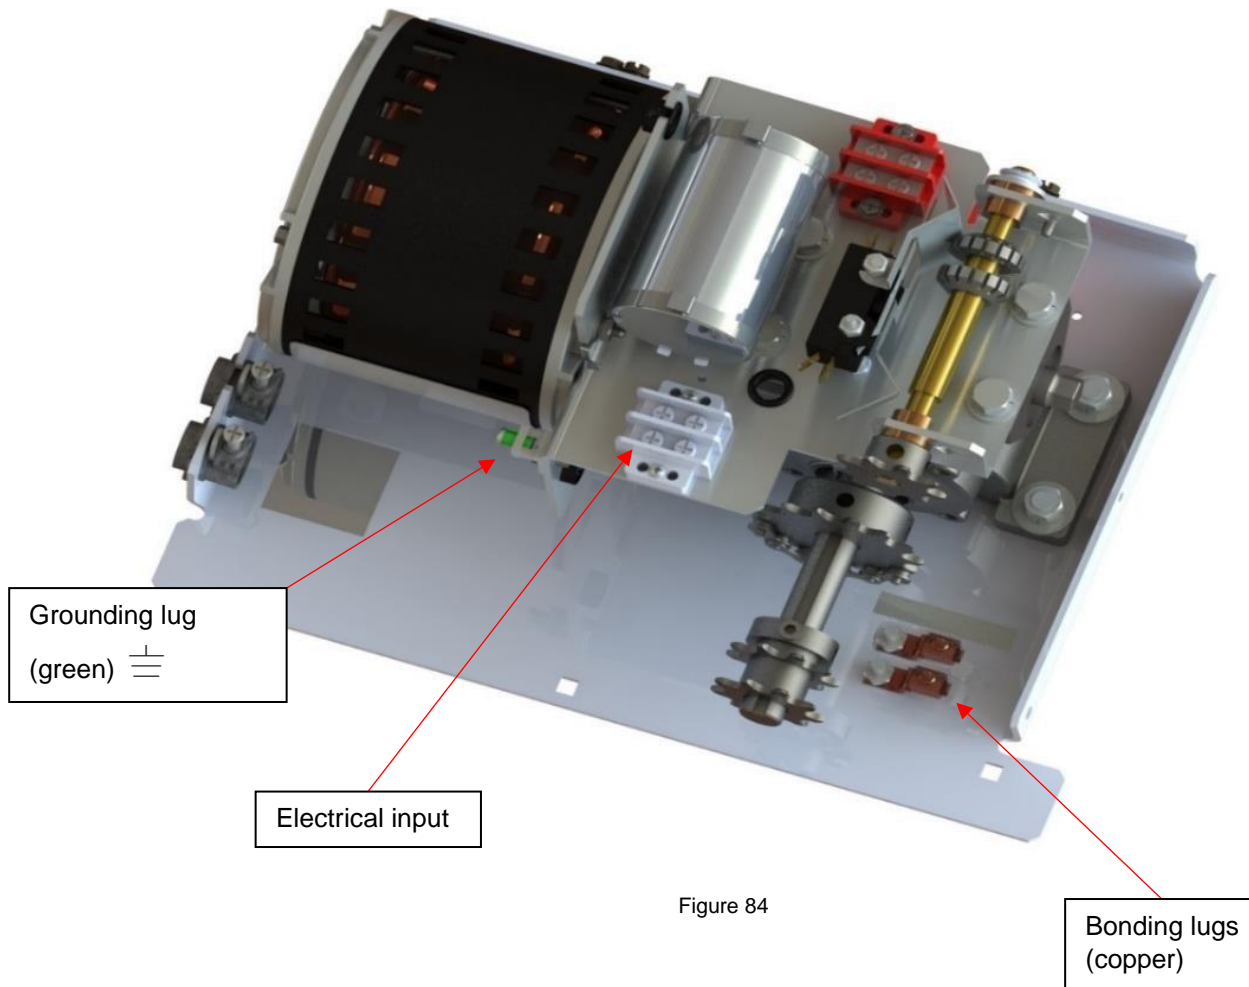

Figure 84
- 1) Remove the four screws on the bottom side of the COVANA operator and remove the cover. (Figure 84)